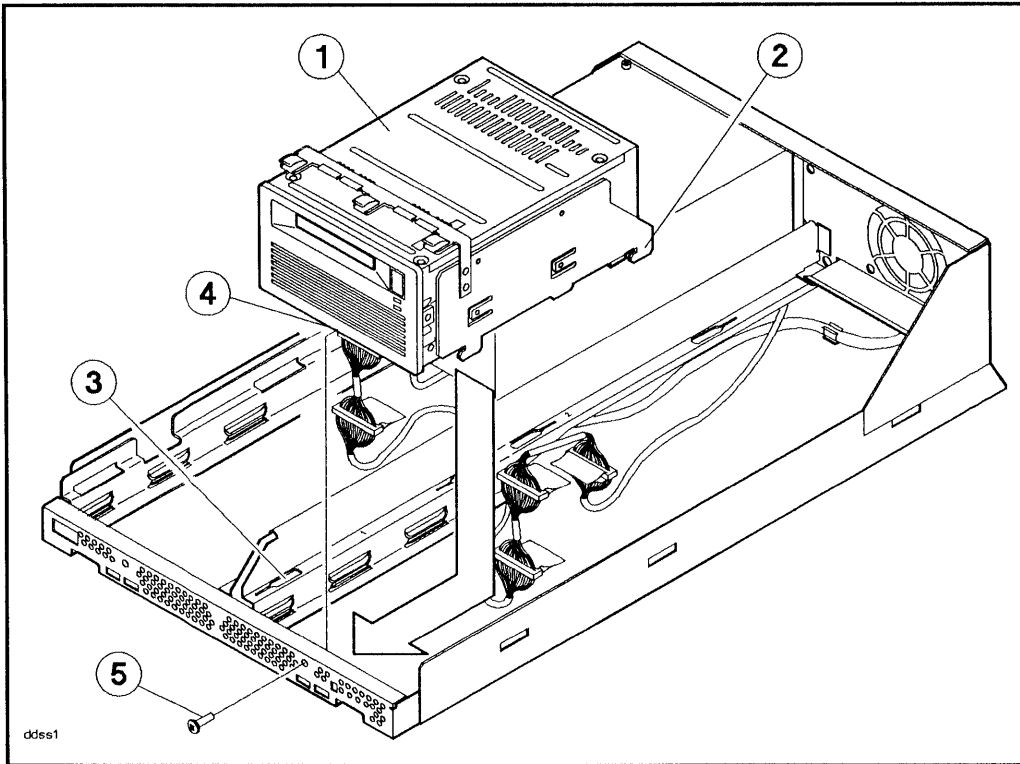
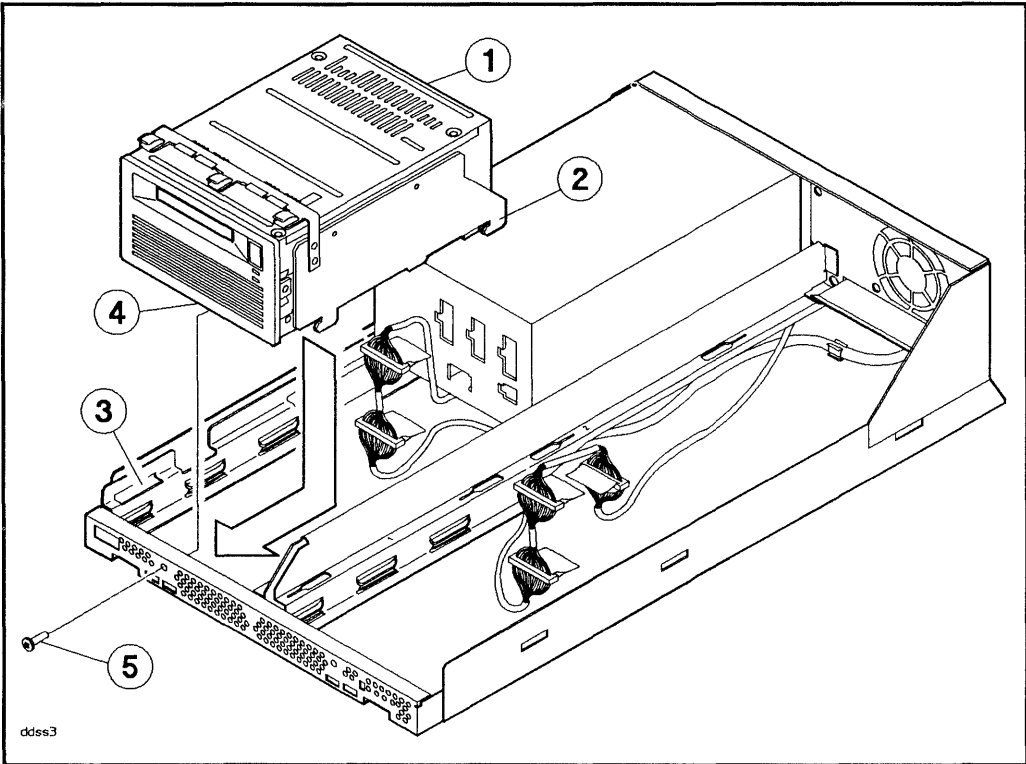

Figure 4-3. Installing the DDS-format DAT Drive into Slot 1
Figure 4-4. Installing the DDS-format DAT Drive into Slot 3
1. Position the mounting tabs into the mounting slots (see Figure 4-3 or Figure 4-4).